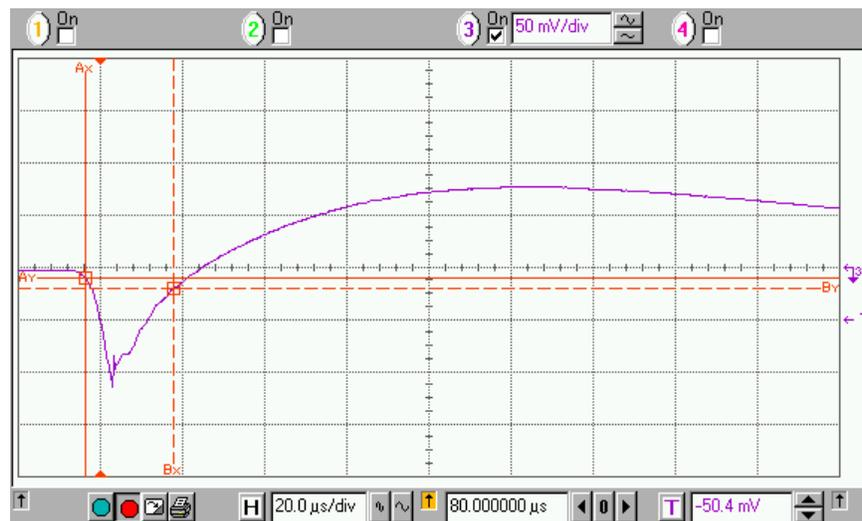

Figure 2-2. Transient Waveform
- f. Set the oscilloscope for negative edge triggering and adjust it for a waveform similar to that in Figure 2-2.